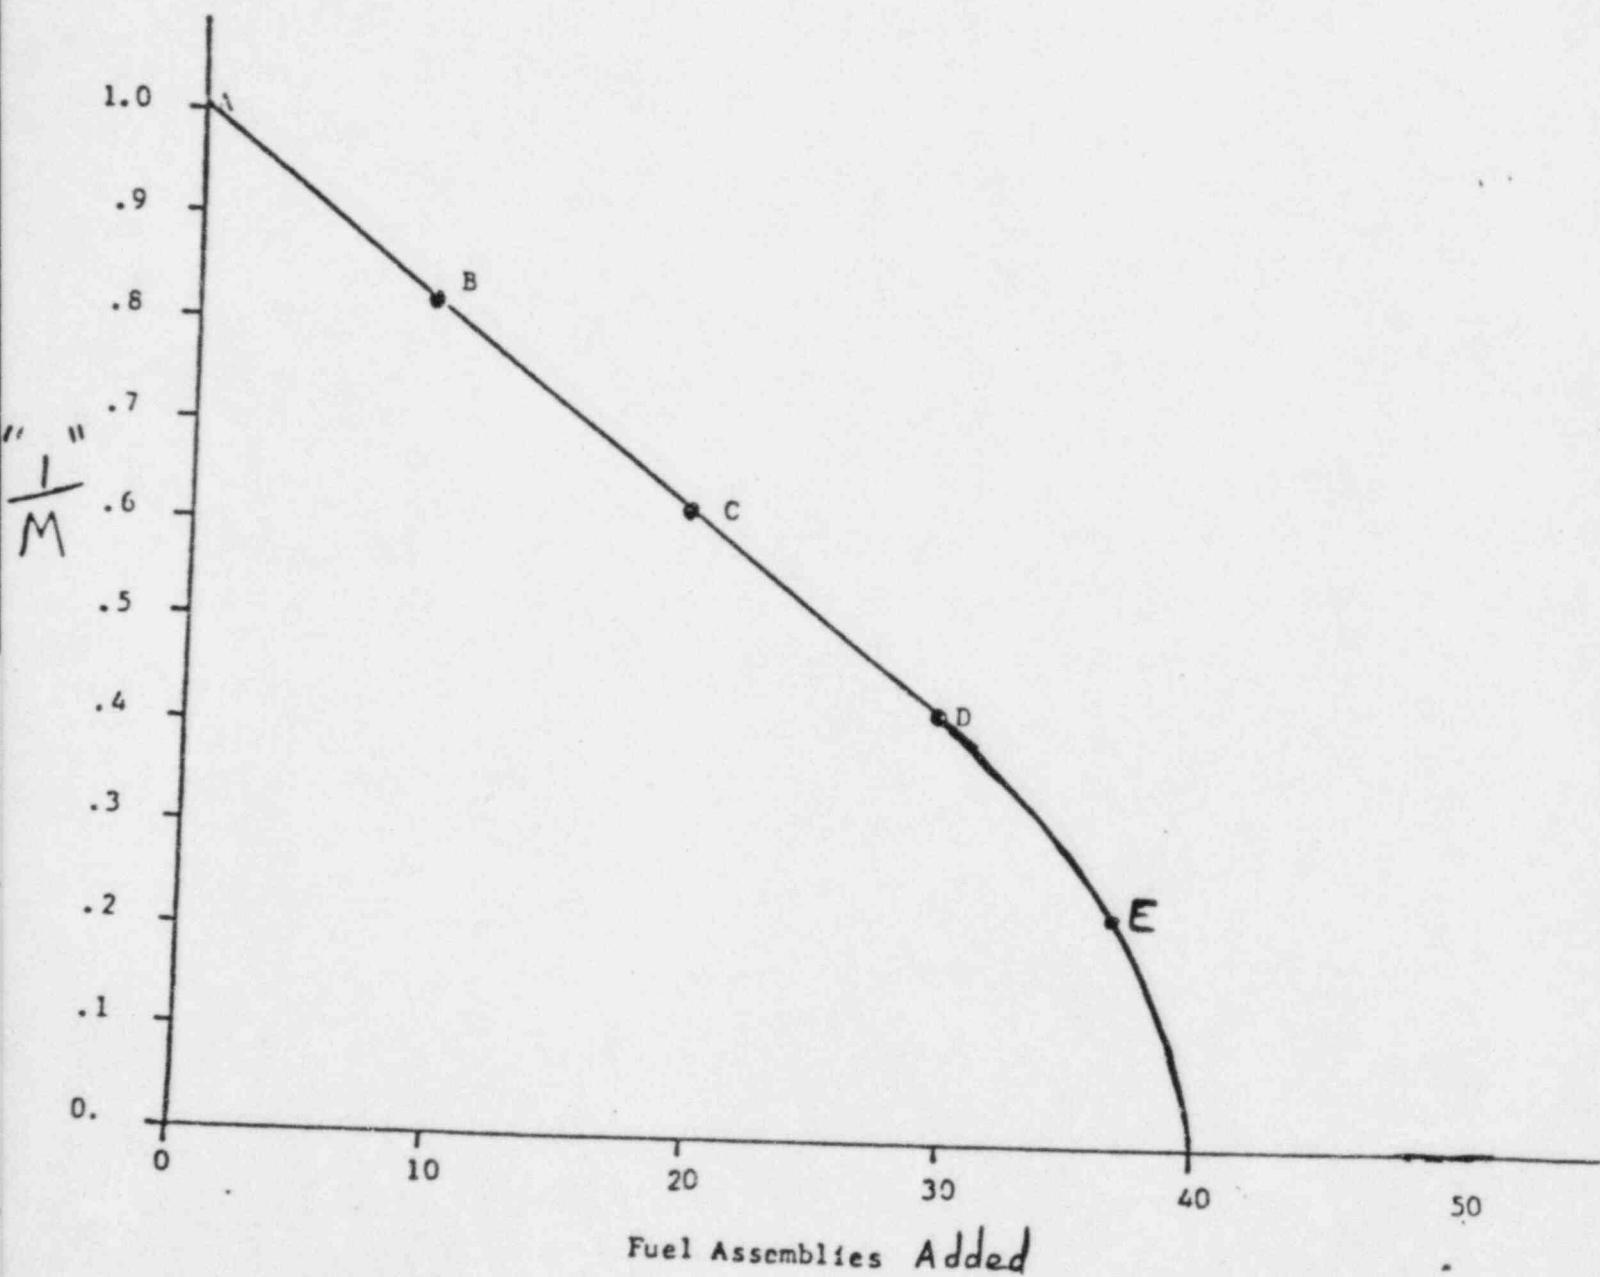

Figure 1: $\frac{1}{M}$
A refueling is being conducted following removal of many fuel assemblies to locate a foreign object in the bottom of the vessel. As the fuel assemblies are replaced, the neutron count rate increases as shown in Fig. 1.
- (a) Define "M" in Figure 1. (0.5)